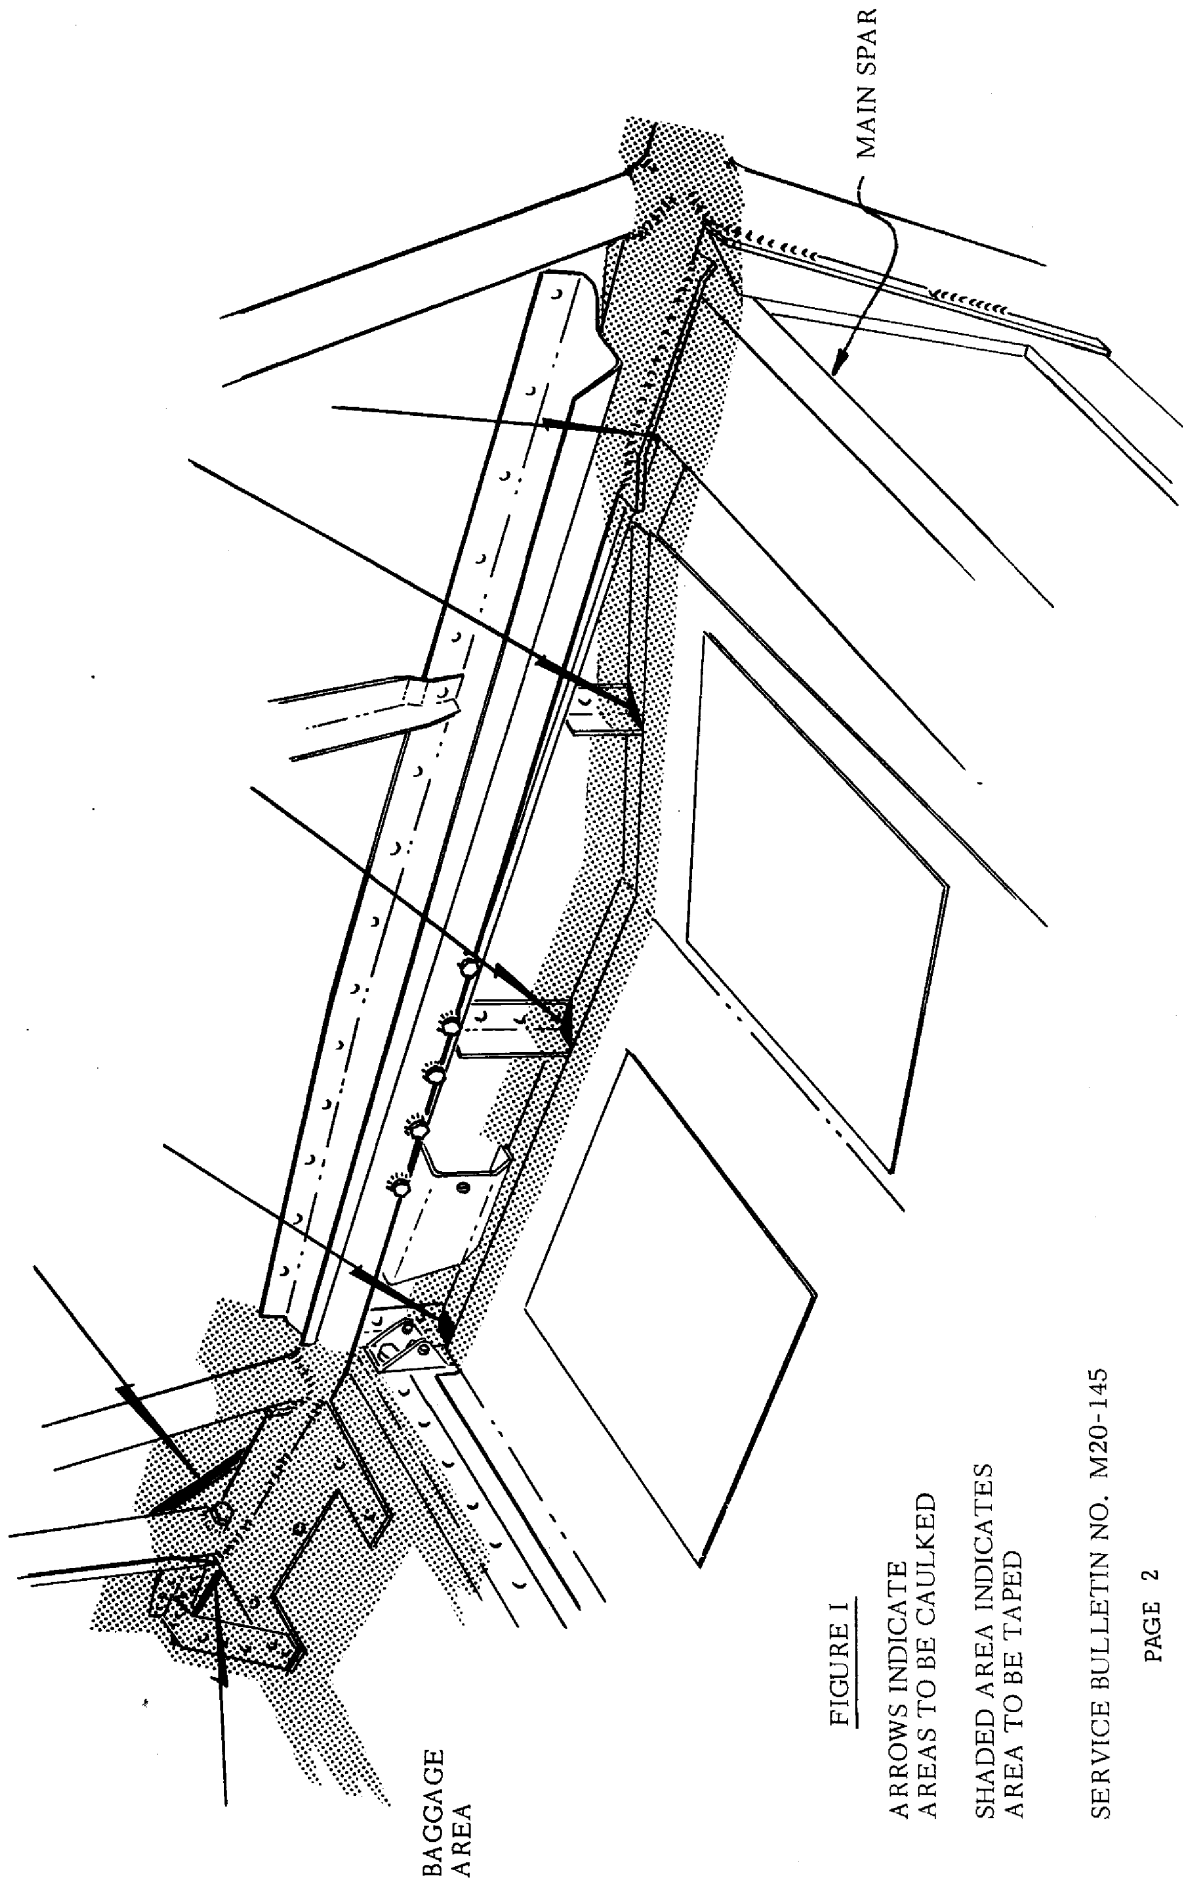

FIGURE 1
2. Figure 1 describes the "sealing line" at the left and right sides junctions which separates cold, higher pressure air in the belly area from the cabin in the vicinity of the rear seat. Check both left and right sides of these areas for any obvious leaks before starting the rework.
4. Fill in areas specified by the arrows in Figure 1 with calking (Scotch Calk or equivalent) as required to seal irregular holes and gaps. The area near the baggage floor extension has been found to have leakage and also the joint between the rib cap and main spar cap under the Tubular Structure.
5. Finish sealing the area indicated in Figure 1 with Permacel #12 aluminum foil tape (or equivalent) as shown by the shaded area.